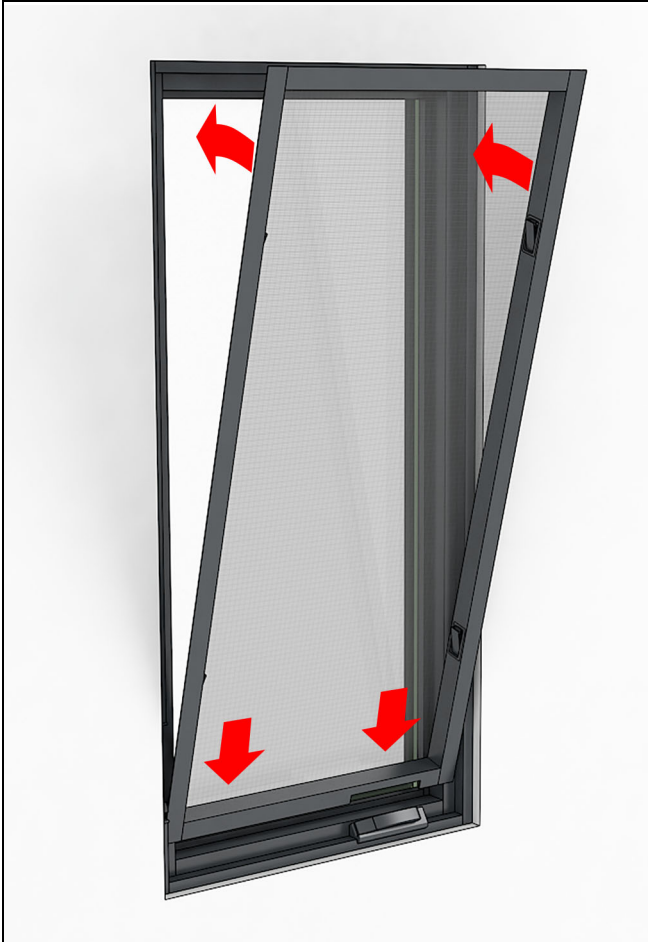

Figure 105
1. Align the notch in the screen frame to fit around the hardware cover then tip the screen into place. See Figure 105.